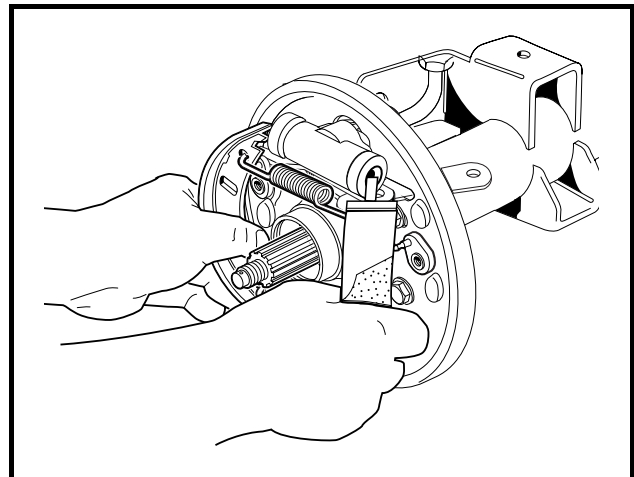

Figure 6-7 Remove Brake Shoes
3. Pull brake shoes and tensioning springs from the brake cluster assembly (**Figure 6-7, Page 6-9**).
6. Pull brake shoes and tensioning springs from the brake cluster assembly (Figure 6-7, Page 6-9).